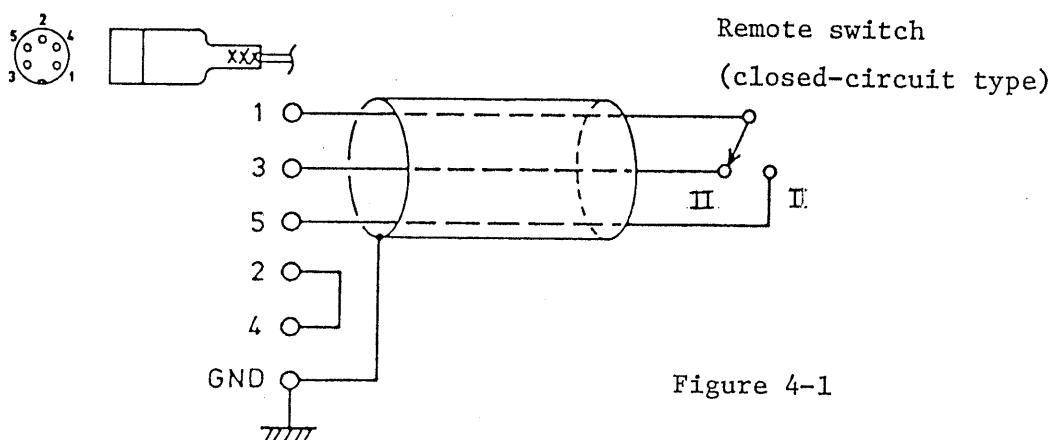

Figure 4-1
- (1) According to the desired output voltage range, set the output voltage range selector to either the higher range (10 - 20 V) or the lower range (1 - 10 V) position. (See Figure 4-1.)
- (2) Considering the current capacity of the load, set the ammeter range selector appropriately.
- (3) Turn on the power switch, slide the voltage control selector to the "I" side, and set the voltage control I to one of the desired voltages. Slide the voltage control selector to the "II" side, and set the voltage control II to the other desired voltage.